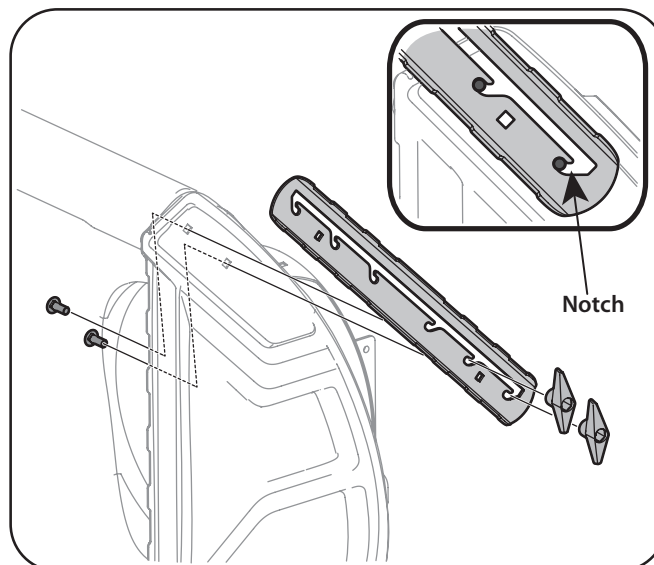

Fig. 3-13
Drift cutters are assembled at the factory for shipping purposes. Assemble the drift cutters as shown in Figure 3-13 prior to operating your snow thrower.
2. Reposition the drift cutters to the housing with the notches facing to the front of the unit as shown in Figure 3-13. Secure with plastic wingnuts and carriage bolts. Bolts should be on the inside of the housing and seated in the notches of the drift cutter, see inset Figure 3-13.